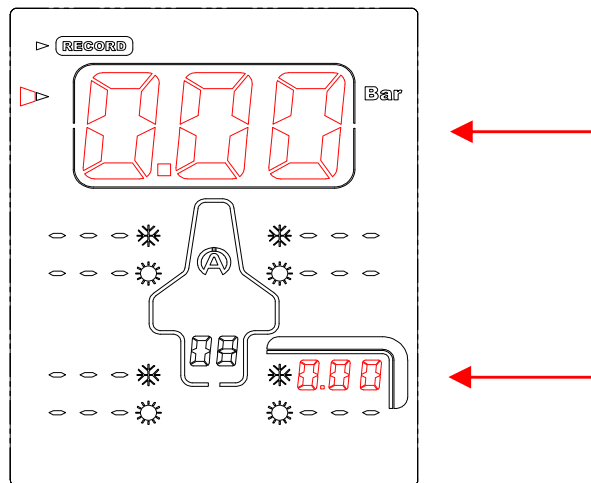

Figure 2
- 2) With the buttons  or  select the « **FACE** » (*figure 2*)
On the example (*figure 2*), the Tyrecontrol is ready to record, the first capture in the Set « 08 » before race ❄️, (« Set » free) while starting with a capture of pressure on the right rear tyre.